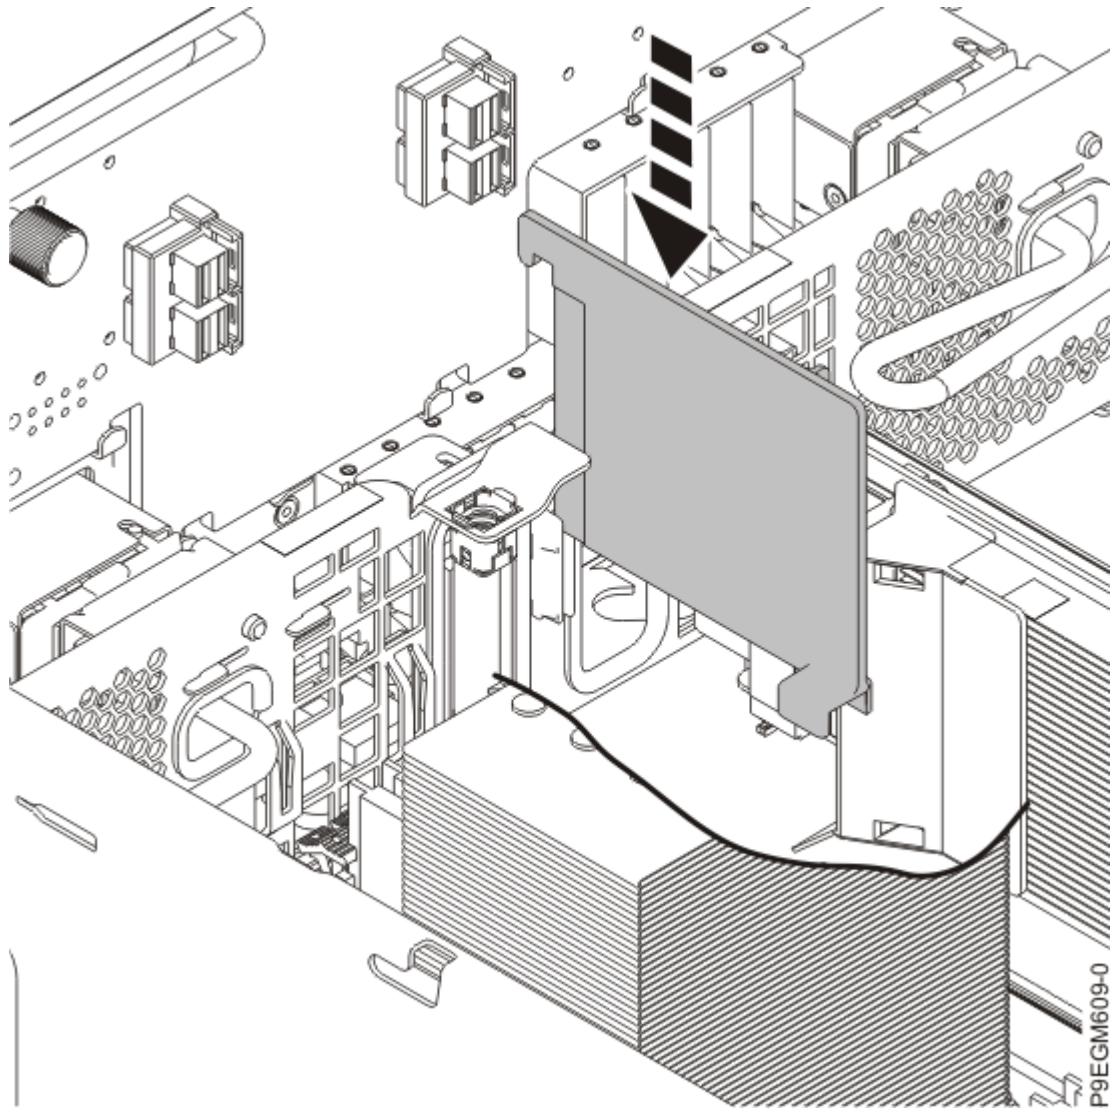

Figure 33. Installing the air divider
c) Lower the air divider into place as shown in Figure 33 on page 39.